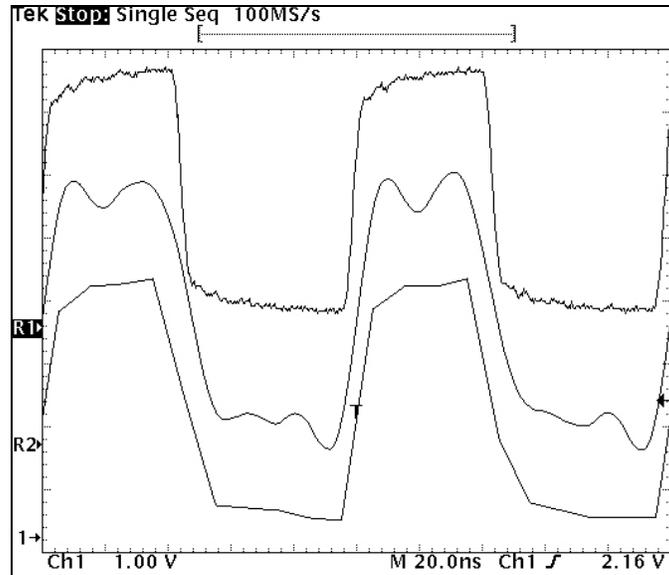

Figure 20. Under Sampling Can Produce Ring Aliasing When Using $\text{sine}(x)/x$ Interpolation
So what will $\text{sine}(x)/x$ do to a step response that is under sampled? In Figure 20, the top waveform (R1) is not under sampled, and is displayed correctly with $\text{sine}(x)/x$ interpolation. The middle waveform (R2) is under sampled, with $\text{sine}(x)/x$ interpolation used for the display. The bottom waveform (1) is under sampled, with linear interpolation (straight lines between acquisition samples) used for the display.